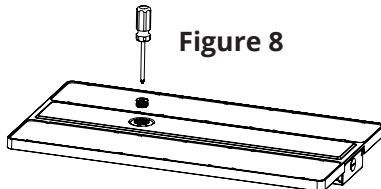

Figure 8
- Step1.** Use a screwdriver to remove the 1/2 plug from the sensor; **(Figure 8)**